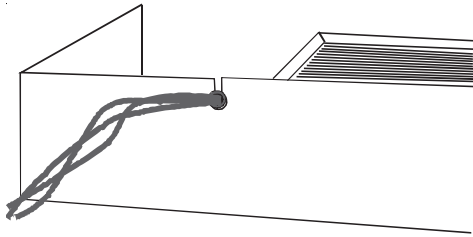

Figure 12
11. Snap the grommet into the hydronic top and pull the wires forward to take out the slack in the wires (Figure 12).